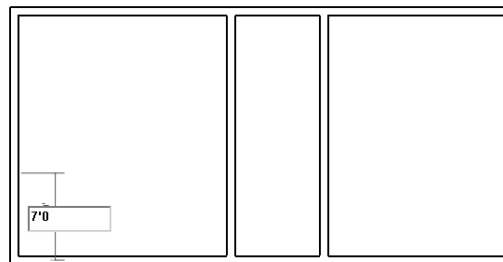

Figure 3-60 Specifying the distance for sketching the third internal wall
3. Move the cursor to the lower left corner and then move it vertically upward. When the temporary dimension appears, enter **7'0"**(**2134 mm**) and then press ENTER to specify the starting point of the third interior wall, as shown in Figure 3-60.